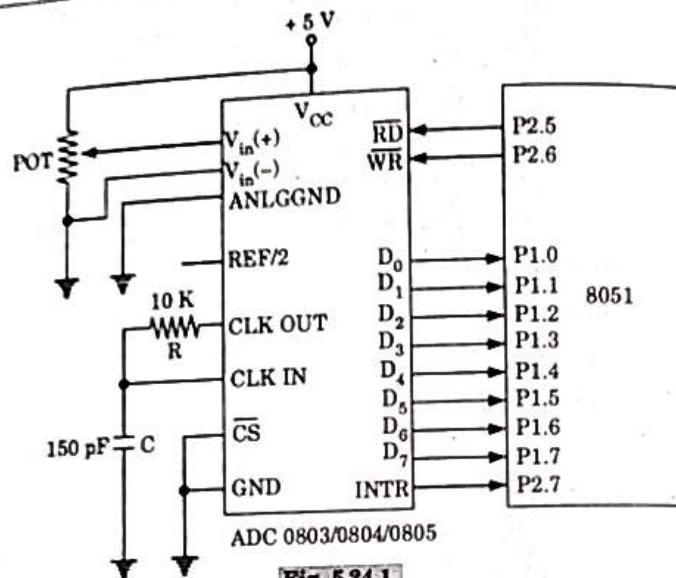

Fig. 5.24.1.
1. Fig. 5.24.1 shows the interfacing of ADC 0803/0804/0805 with 8051 using port 1 and port 2.
3. Potentiometer is used to adjust $+V_{in}$. The clock signal is provided using internal clock generator and two external components, resistor and capacitor as shown in the Fig. 5.24.1.